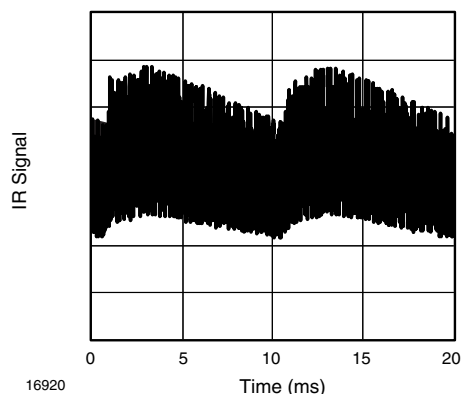

Fig. 13 - IR Disturbance from Fluorescent Lamp with Low Modulation
- Strongly or weakly modulated patterns from fluorescent lamps with electronic ballasts (see Fig. 13 or Fig. 14)